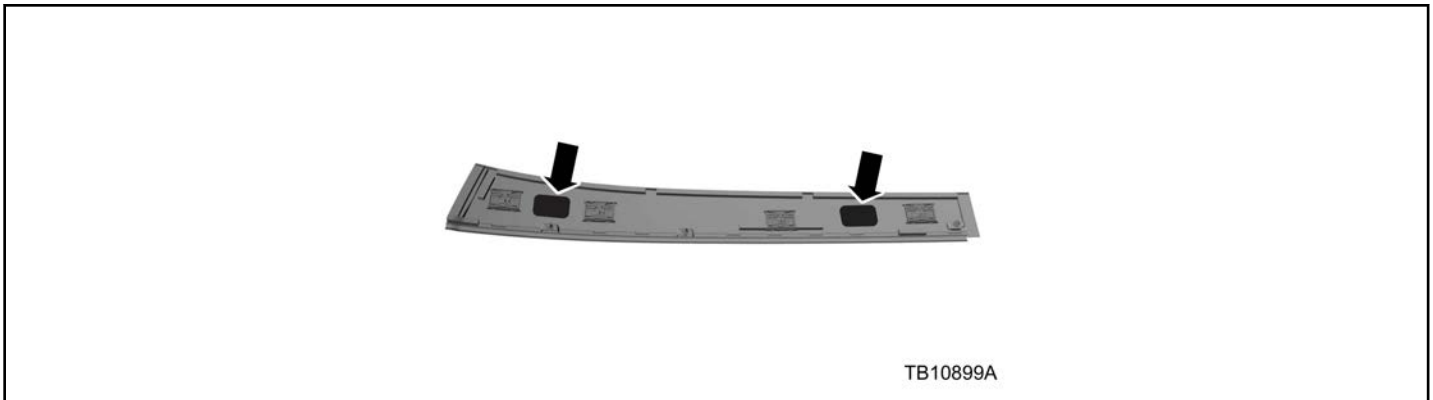

Figure 2 - Article 16-0079
- 9. Apply a one step urethane glass primer to the roof opening panel side trim panel in the locations shown. (Figure 2)